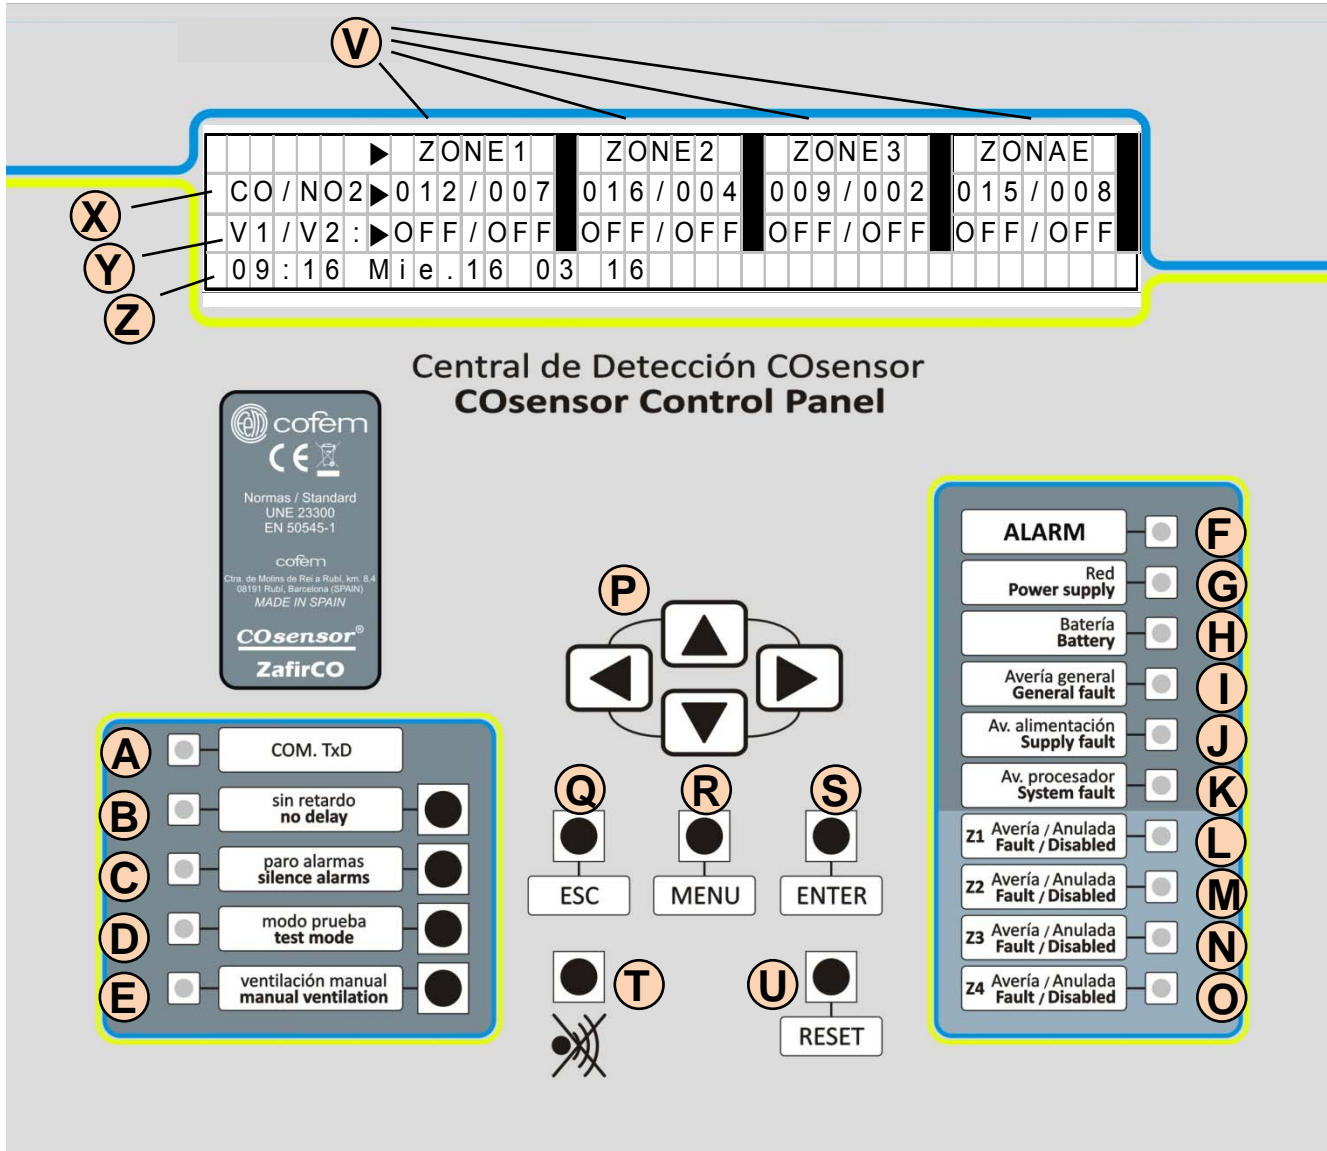

Figure 10: Control panel view
9. The control unit must be in working condition with the power supply led on (letter G in Figure 10).
If an alarm occurs, the control panel lights red alarm Led (F in Figure 10) and the buzzer sounds.
In case of failure of power, amber led GENERAL FAULT and SUPPLY FAULT (I and J in Figure 10) will light, sound the buzzer and show the following message.
If control panel is DVB, disconnect the main power supply. The control panel must activate the buzzer, turn off the led "Red" (letter G in Figure 10), and turn on the led "Batteries" (letter H of Figure 10).
After verifying that the system is stable and remains working normally, reconnect the main power supply. The battery led (letter H of Figure 10) must be switch off and the led (Led G of Figure 10) on.